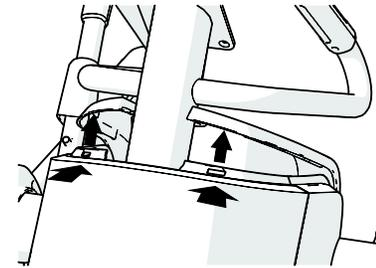

Figure 10
2. Extend a finger through the gasket opening and under the front edge of the top cover. While pressing upward on the top cover, use the heel of your hand to tap below its front edge and release it (see Figure 10). Repeat this step to release the other side of the top cover.